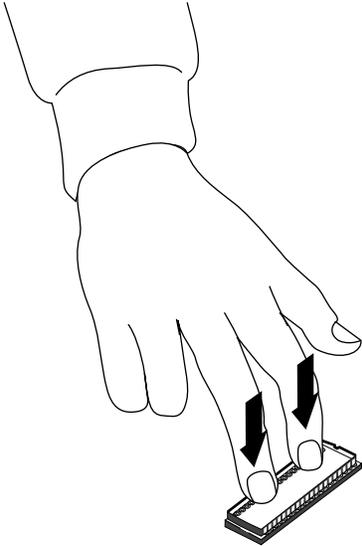

Figure 2-13 Pressing the PROM Chip Into the Socket
- 4. Once the pins are lined up, press down firmly on the top of the PROM chip until it is seated in the socket, as shown in Figure 2-13.